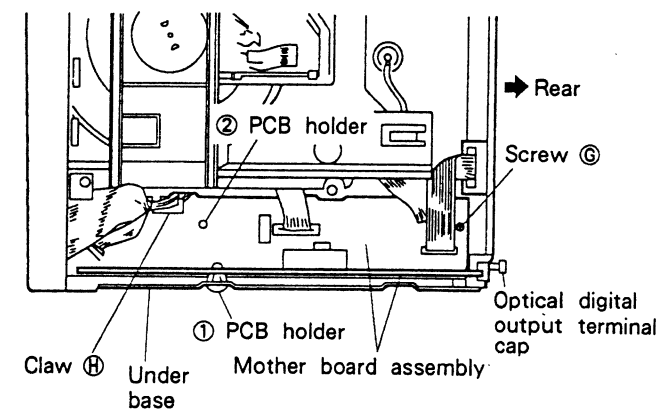

Fig. 2 - 3.
- ① Remove the float base. (See 2.3.)
- ② Remove the gear pulley and driving gear.
- ③ After rotating the clamp cam fully in the counter clockwise direction, pull it up.
- ① Remove the tray. (See 2.1.)
- ② Remove the operation panel and rear base. When removing the operation panel, remove the flat cable for the transformer board and the mother board assembly. Moreover, when removing the rear base, remove the cap of the optical digital output terminal.
- ③ Remove screw ⑥ holding the mother board assembly.
- ④ Remove the bundle of wires of the mother board assembly from claw ⑩ of the loading base.
- ⑤ After removing the board from the PCB holder in the order of ① and ② shown in Fig. 2 - 3, pull it out.